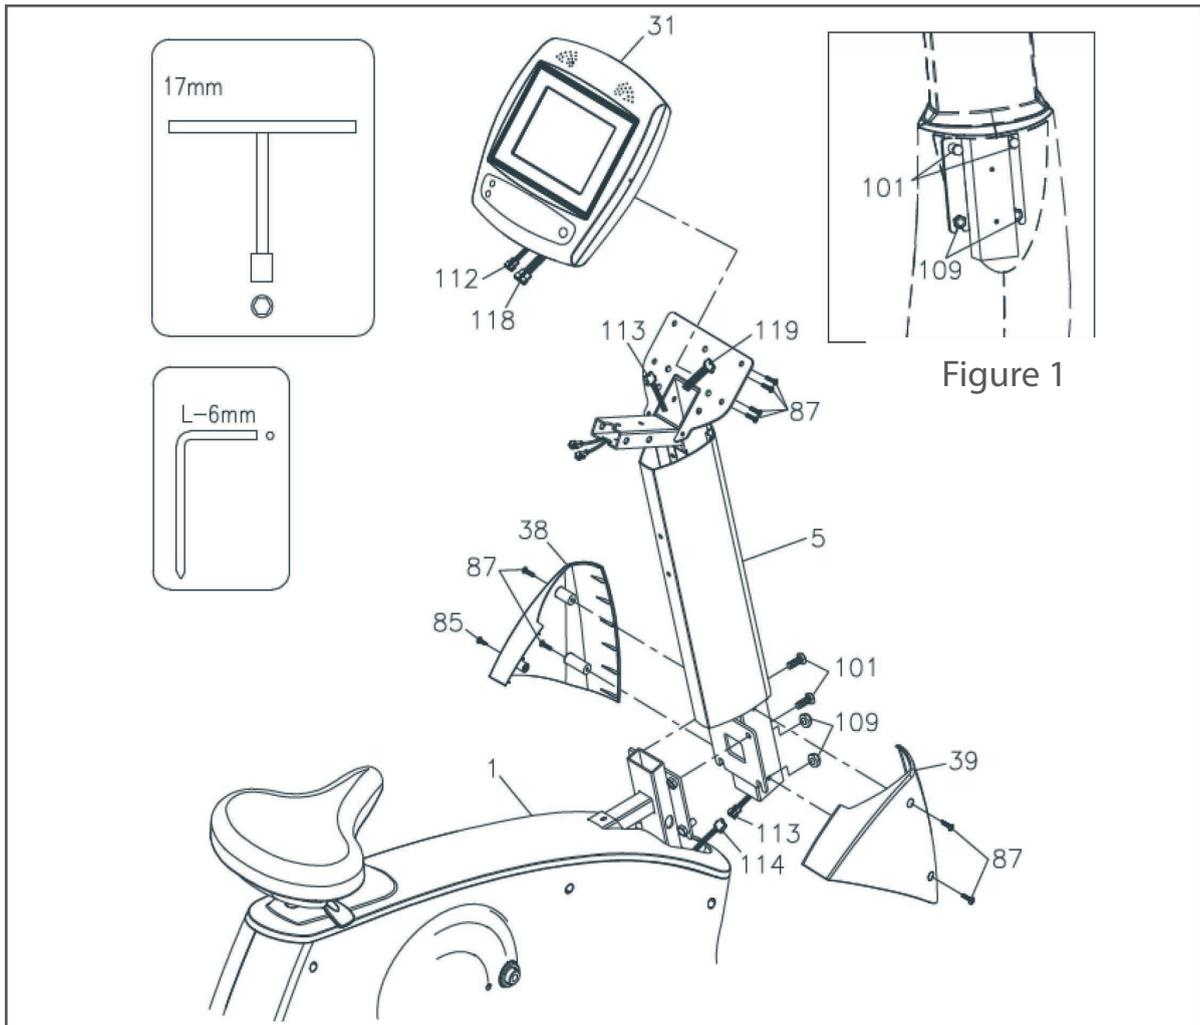

Figure 1
a) Check if two nylon nuts (M10xp1.5)(109) were pre-mounted on the frame. See fig. 1.
b) Insert the console mast (5) in the main frame (1) and mount it with two screws (M10xp1.5x25mm) (101). Then tighten the nuts (M10xp1.5)(109).